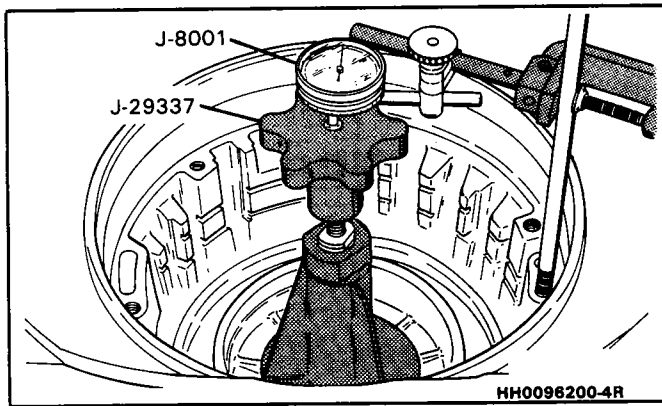

Figure 82 Forward Clutch Shaft End Play Check
**Measure (Figures 82, 83 and 84)**
1. Push forward clutch shaft (518) downward.